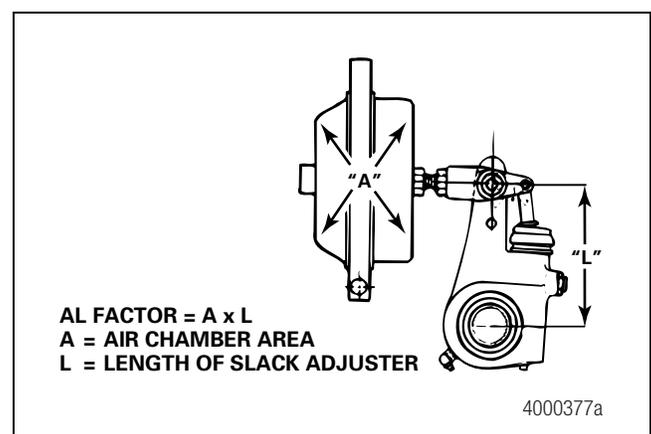

Figure 11.2
7. The air chamber area multiplied by the length of the automatic slack adjuster is called the AL factor. This number must be equal for both ends of a single axle and all four ends of a tandem axle. Figure 11.2. The push rod stroke length of all the brakes must be equal.